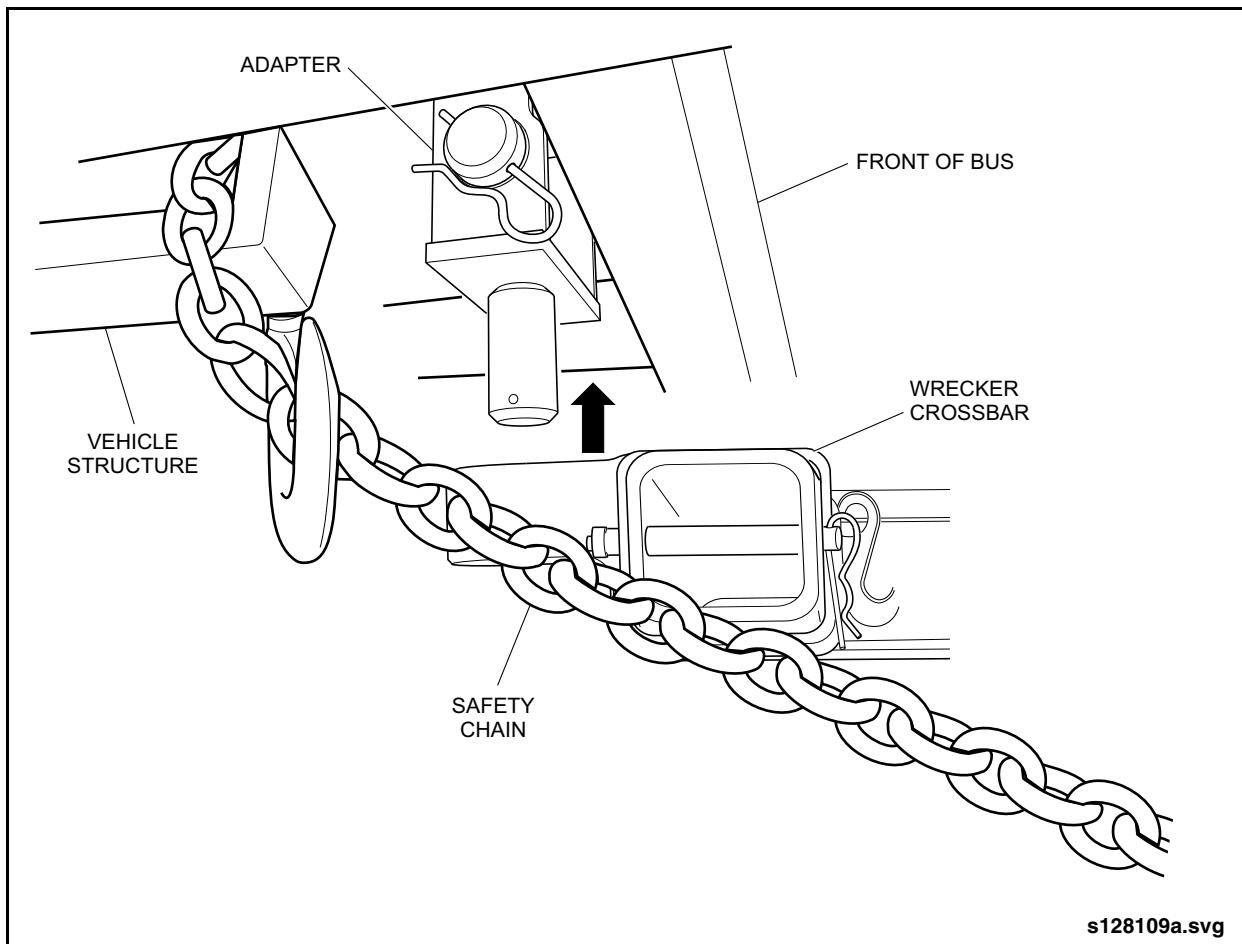

Fig. GI-23: Safety Chain
5. Attach two safety restraint chains from the towing vehicle to a fixed location on the towed vehicle. See "Fig. GI-23: Safety Chain" on page 48.